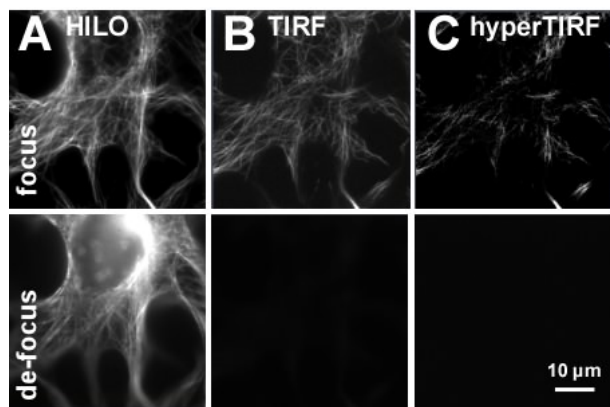

Fig. 107 3T3 cells stained for tubulin imaged in "HILO" (A), "TIRF" (B) and "hyperTIRF" (C) mode.
- 2.) Switch to TIRF mode and move **TIRF angle (°)** slider back and forth to find the best TIRF setting. In **EPI** or **HILO** conditions, there is out-of-focus light visible and by defocusing up other structures, if stained, will appear (Fig. 107/A). In **TIRF** condition out-of-focus haze is not visible and signal-to-noise is maximal. By defocusing the signal is lost (Fig. 107/B). In **hyperTIRF** condition, the signal will be fainter and signal-to-noise will decay (Fig. 107/C).